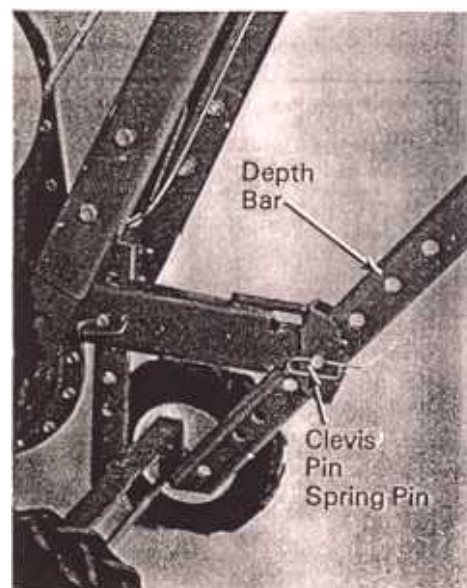

Figure 1
- 2 Attach the depth bar to the tailpiece with the clevis pin and spring pin. (See figure 1.)